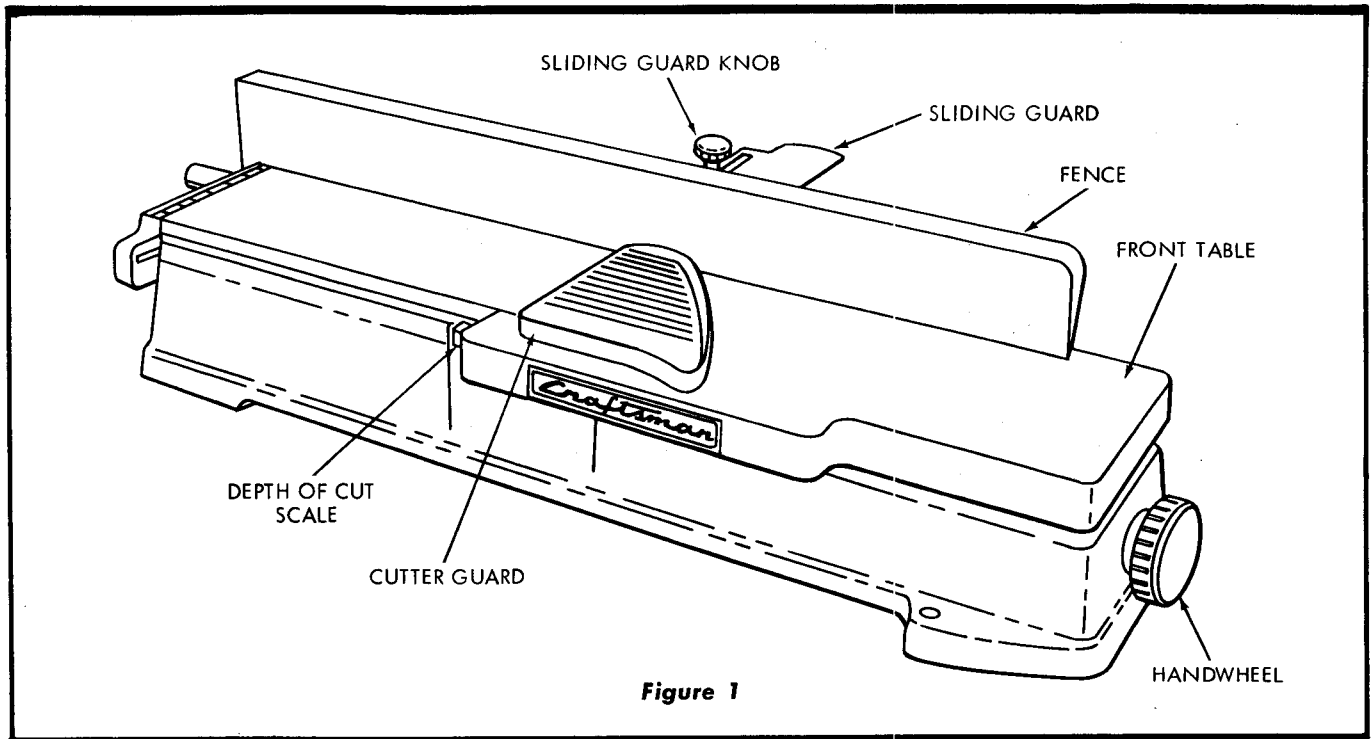

Figure 1
This Jointer-Planer has been completely assembled, inspected and tested at the factory. To prevent damage and misalignment of parts during shipping, the cutter guard (See figure 1.) was removed and packed separately. Before operating the jointer-planer place the cutter guard in position as shown in figure 1.
(See figure 1.)
1. The cutter guard (figure 1) should be in operating position at all times except during rabbeting at which time the sliding guard covers the unused portion of the cutter head. For the rabbeting operation, the fence is shifted from its normal position at the right-hand edge of the table to the desired position on the left-hand side. The width of cut is determined by the distance from the end of the cutter knives to the fence. Depth of cut is determined by the position of the front table as previously described.